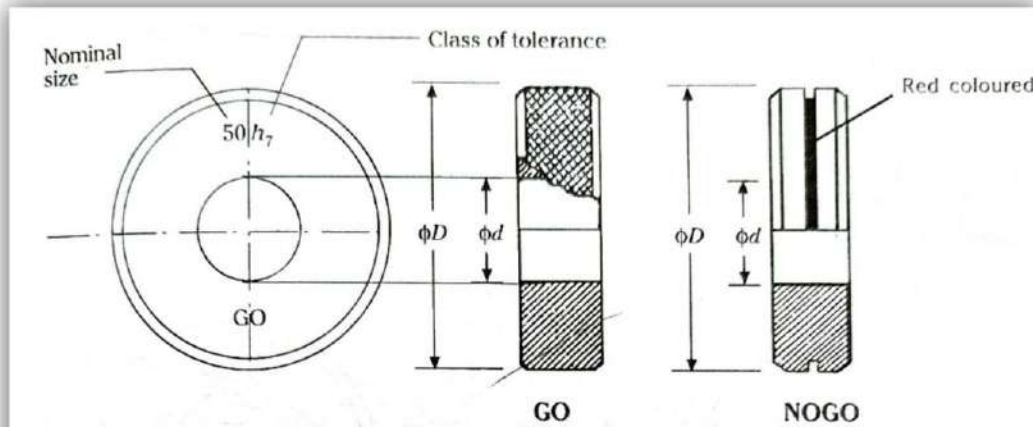

Fig. 6 GO and NO GO Ring Gauges for Dimensions 3 to 70 mm
- The general shapes of "GO" and "NO GO" gauges for the range 3mm to 70 mm in 10 steps **Fig. 6.**